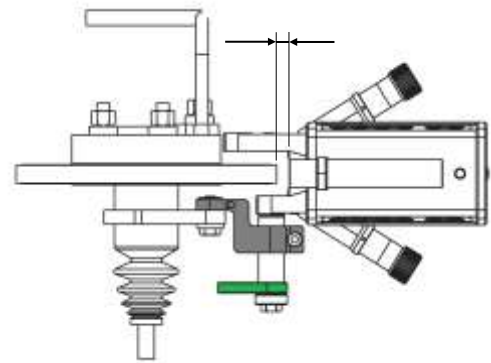

Fig. 43
1. Check the space between lathe and disc: Keep the space between lathe and disc short as possible, but at least 5 mm (0.04 inch). Fig 43.
1. Bring the Lathe into correct position, Fig. 43.